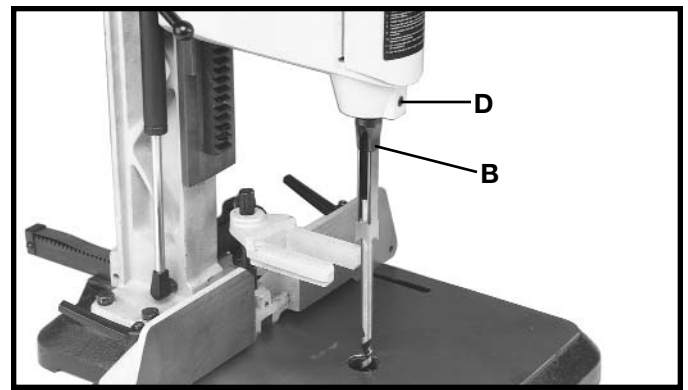
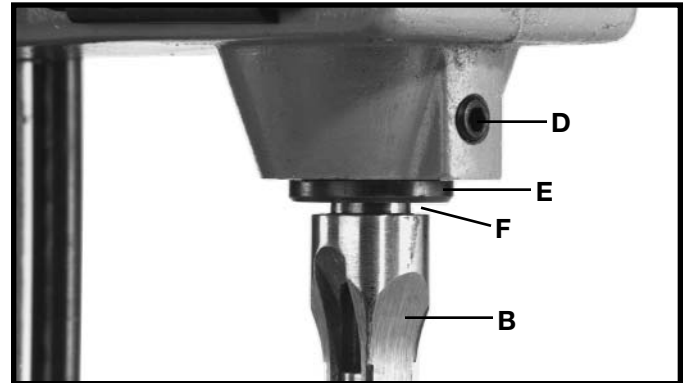

Fig. 11
Fig. 12
2. Loosen screw (D) Fig. 11, and push chisel (B) up through hole in head as far as possible. Then lower chisel (B) 1/16" to 3/16" and tighten set screw (D). **IMPORTANT:** When inserting chisel (B) Fig. 12 into head, there must be a space of 1/16" to 3/16" clearance (F) between the bushing (E) and shoulder of chisel (B) as shown. This assures having proper clearance between the cutting lips of the bit and points of the chisel after the bit is inserted into the chuck.